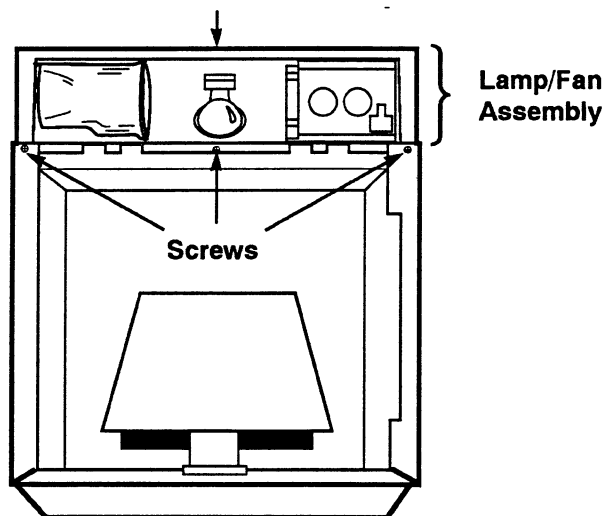

Figure 5-19. Top View Lamp/Fan Assembly
Electrical components are located in the lamp/fan assembly. Figure 5-19. Remove the top cover and disassemble the lamp/fan assembly to perform maintenance on the following electrical components:
3. Remove three retaining screws. Figure 5-19.
3. Remove three screws holding the Lamp/Fan Housing to the base. Figure 5-19.